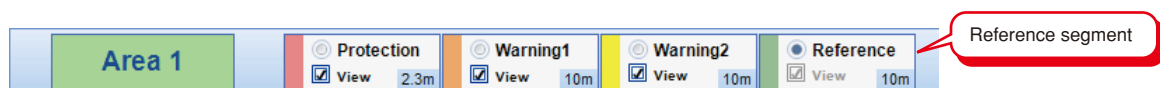

Figure 7-45. Select Reference segment
- f) After the Reference monitor function is enabled, [Reference] will be shown on the [Displayed Area] panel as shown in figure 7-45 to configure reference segment.